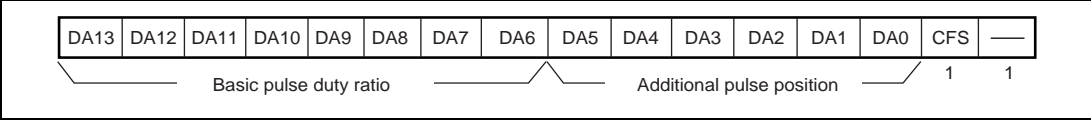

Figure 10.5 D/A Data Register Configuration when CFS = 1
An example of setting CFS to 1 (basic cycle = resolution (T) × 256) and OS to 1 (PWMX inverted output) is shown as an additional pulse. When CFS is set to 1, the duty ratio of the basic pulse is determined by the upper eight bits (DA13 to DA6) in DADR, and the position of the additional pulse is determined by the following six bits (DA5 to DA0) as shown in figure 10.5.